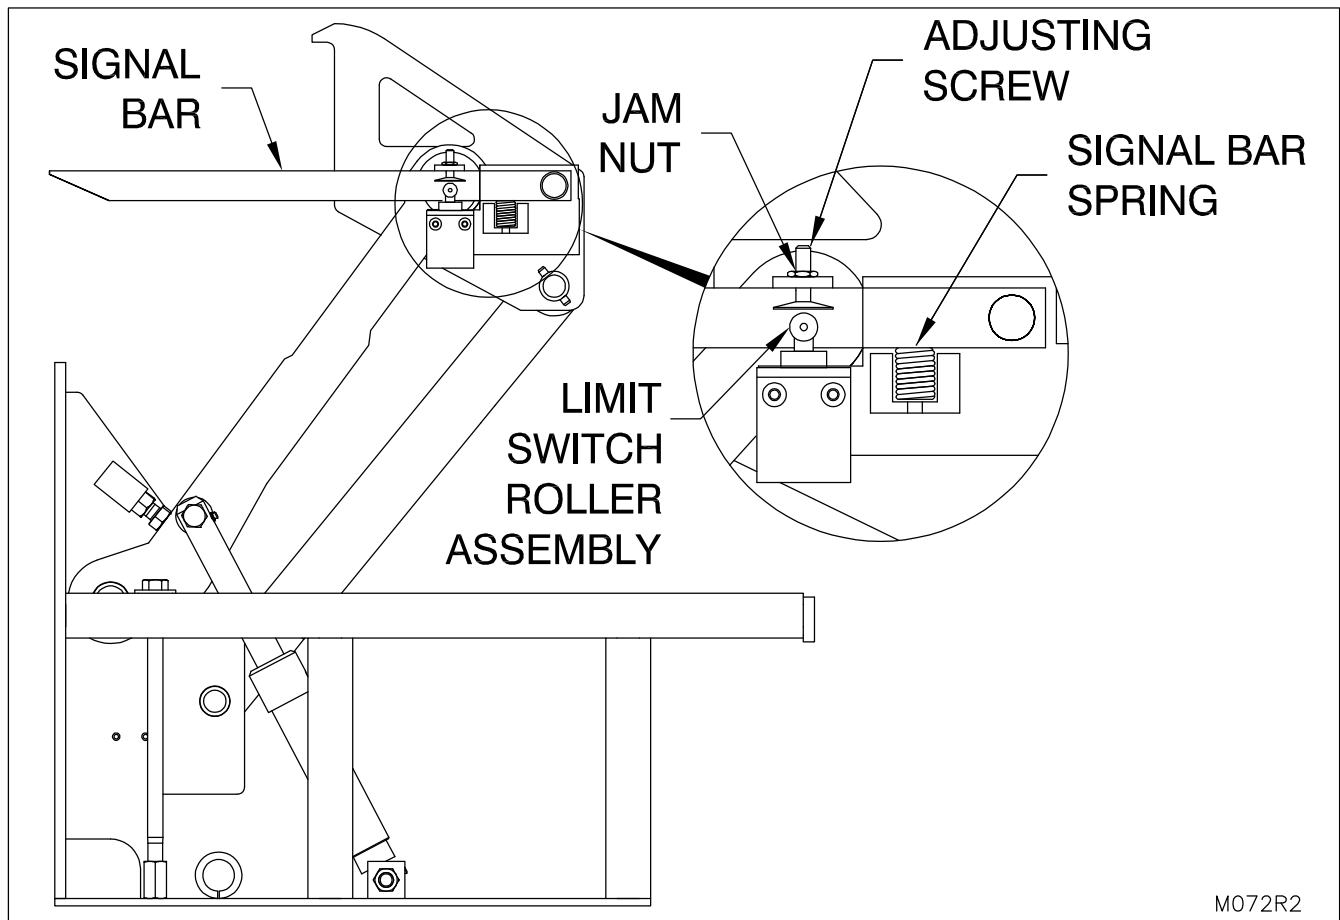

Figure 23: Setting the Signal Bar Limit Switch
- Confirm that the signal bar limit switch has not been depressed (See "Figure 23: Setting the Signal Bar Limit Switch" on page 31).
- Check the signal bar spring is in place (See "Figure 23: Setting the Signal Bar Limit Switch" on page 31).
- Check signal bar limit switch adjustment on signal bar (See "Figure 23: Setting the Signal Bar Limit Switch" on page 31).
- b. Check signal bar limit switch adjustment (See "Figure 23: Setting the Signal Bar Limit Switch" on page 31).
- e. Confirm that the signal bar limit switch is not activated. (See "Figure 23: Setting the Signal Bar Limit Switch" on page 31)
- e. Confirm that the signal bar limit switch is not activated. (See "Figure 23: Setting the Signal Bar Limit Switch" on page
- c. Confirm that the signal bar limit switch is not activated. (See "Figure 23: Setting the Signal Bar Limit Switch" on page 31)
- Raise the signal bar and confirm that the signal bar spring is in position (See "Figure 23: Setting the Signal Bar Limit Switch" on page 31).